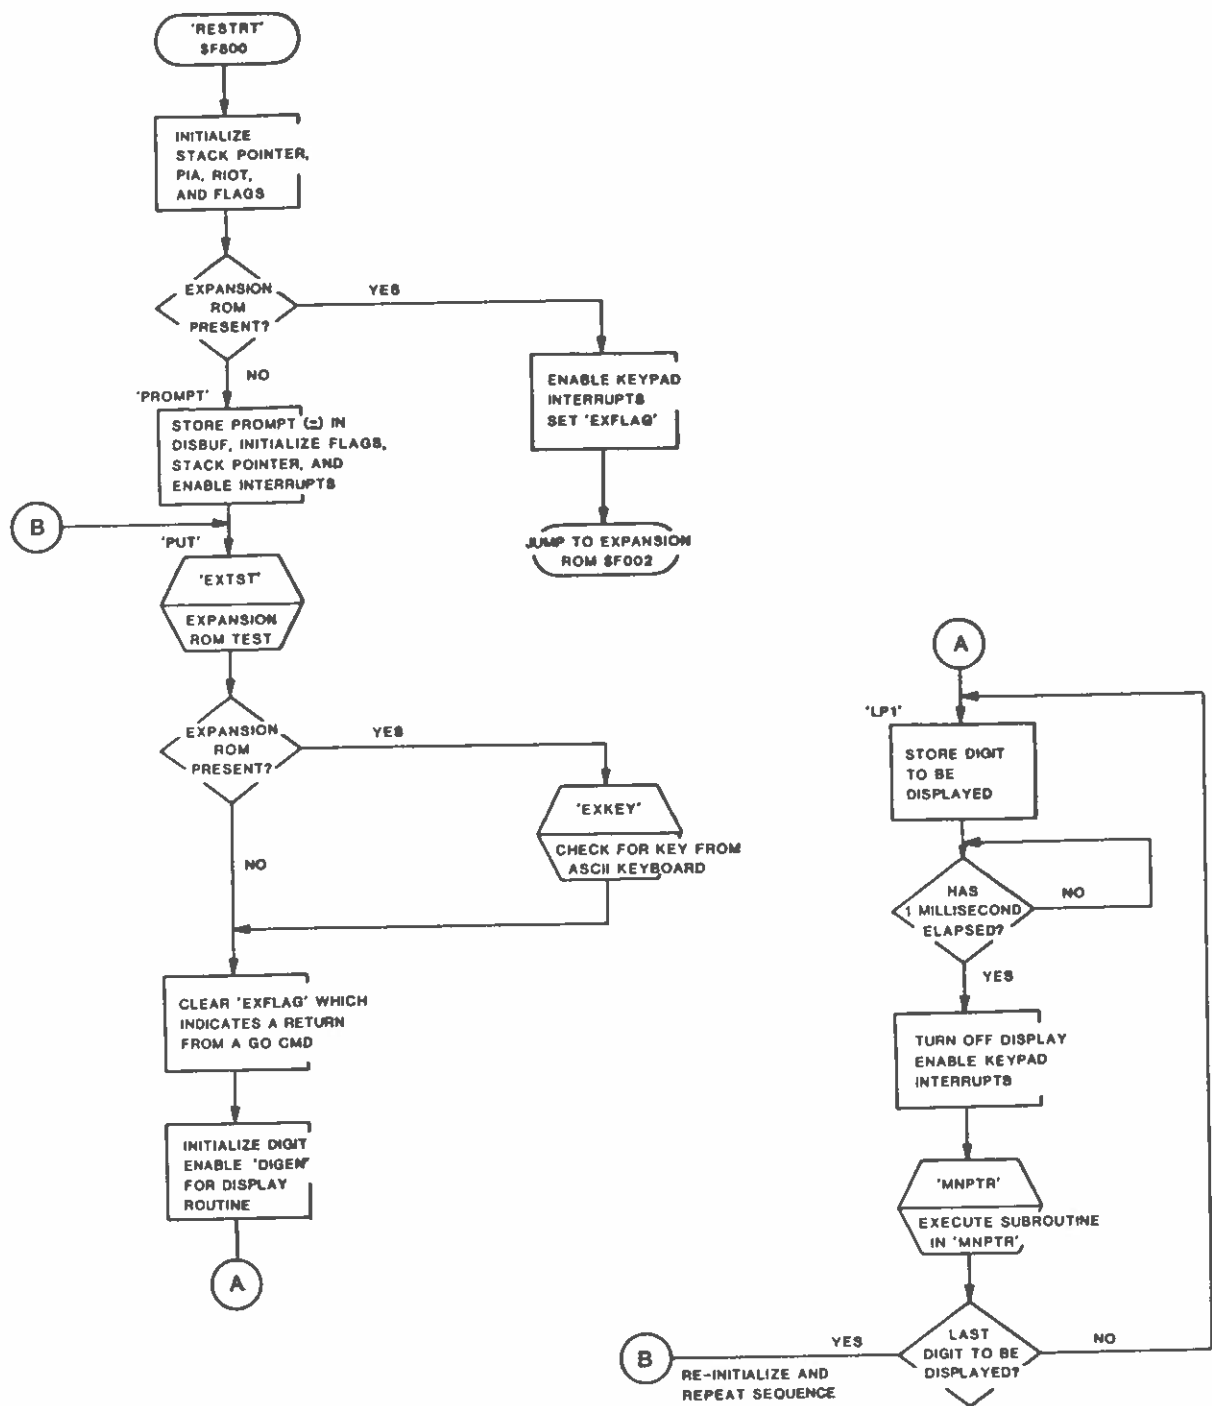

FIGURE 4.1.1. OVERALL PROGRAM FLOW FOR D3BUG MONITOR
The restart/initialization routine is included in the flow chart in Figure 4.1.1. When the RESET (RS) key is released, the 6802 processor outputs addresses \$FFFE and \$FFFF which are the processor's restart vector address locations and contain the program address of RESTRT. This initialization program is located at \$F800, the beginning location of the D3BUG ROM.